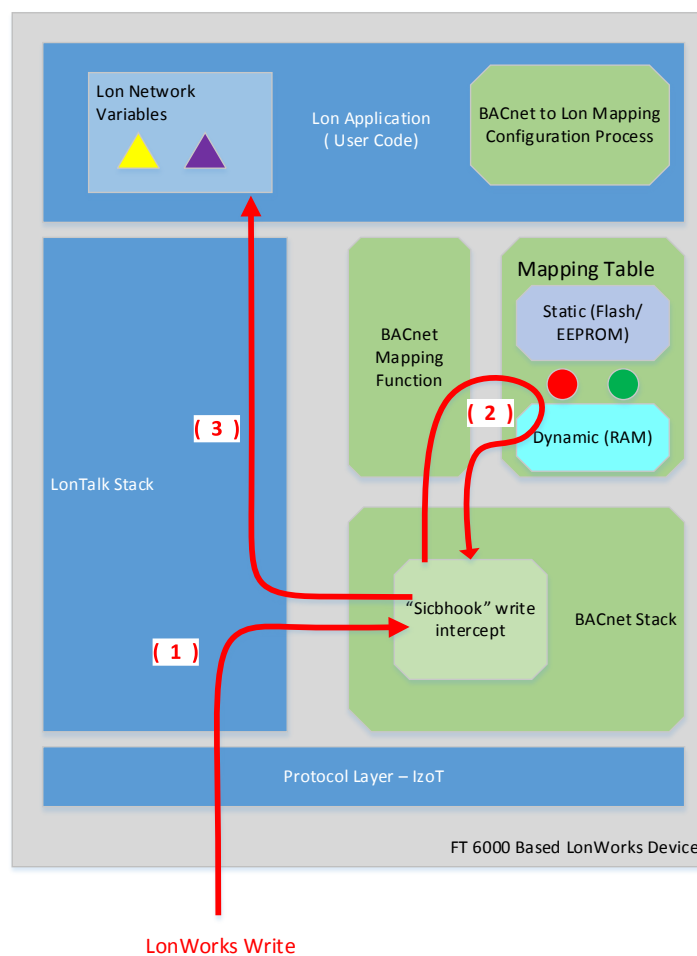

Figure 4. Data Flow during LONWORKS Write
A LONWORKS Network Variable write arrives at the LonTalk stack in figure 4, this is noted as (1). During the processing of the write, the BACnet stack is given an opportunity to examine the message, and if necessary, (2) modify the data content with higher priority data values (see “write operation resolution” above).
A BACnet Write operation is effectively a LONWORKS Message with a different Message Code Field. As shown in Figure 4, when the LONWORKS message is received by the LonTalk Stack (1) it is routed through the BACnet stack which extracts the BACnet Properties and values, modifies them to suit a Network Variable format and passes this new Network Variable information back to the LONWORKS stack for further processing.